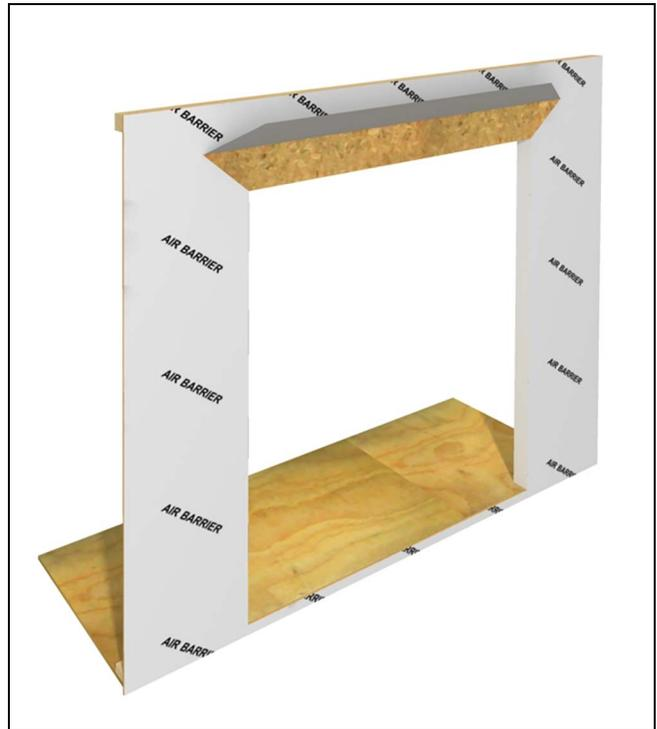

Figure 5
2. Wrap barrier at the sides to the interior and tack in place. Do not tack barrier at head jamb. Fold the head jamb flap up and tack in place or tuck beneath. This will allow the top flap to fit over the head jamb flashing after installation of the door. See Figure 5.